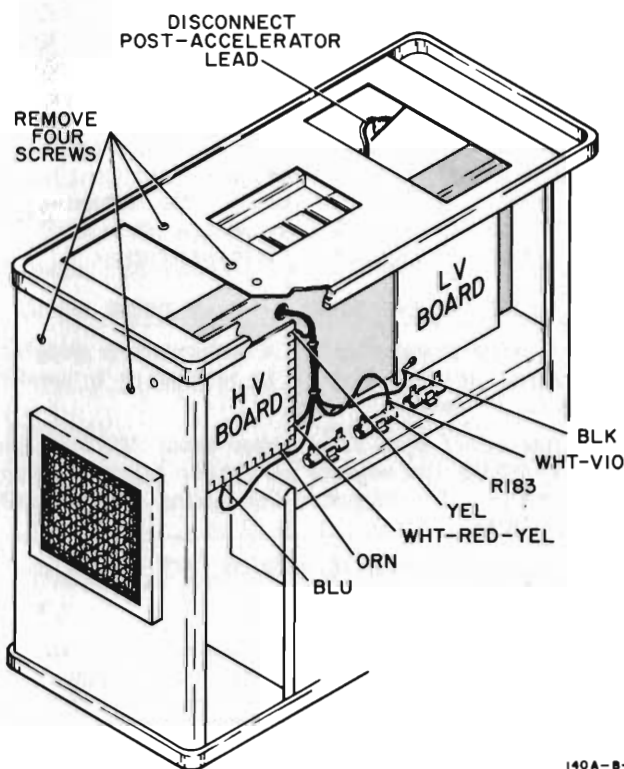

Figure 5-3. Removal of High-Deck Assembly
- a. Disconnect the six leads identified in Figure 5-3.
- c. Remove the four screws identified in Figure 5-3.